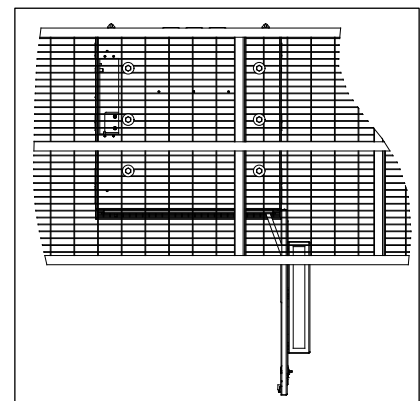

Figure 6 Installing on a Platform
7. To secure the CUBE to a steel grate platform, install 1/2” corrosion-resistant Grade 5 steel hardware through the cabinet and platform grate. Ensure that the bolts are long enough to extend past the nut on the bottom side of the platform grate. For all mounting applications, each bolted joint should have a minimum Ø1 inch fender washer on the inside of the cabinet (and the underside of the platform grate) with a lock washer. The washer on the underside of the platform must be large enough to cover both adjacent bearing bars as shown in Figure 6.